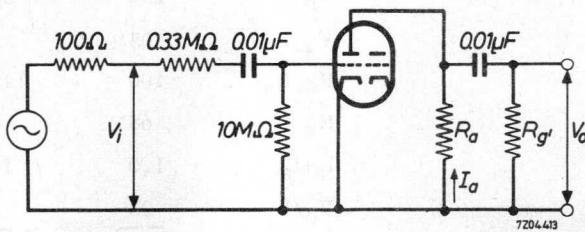

Fig.3
A.F. amplifier - circuit fig.3.
A.F. amplifier - circuit fig.3, (continued)